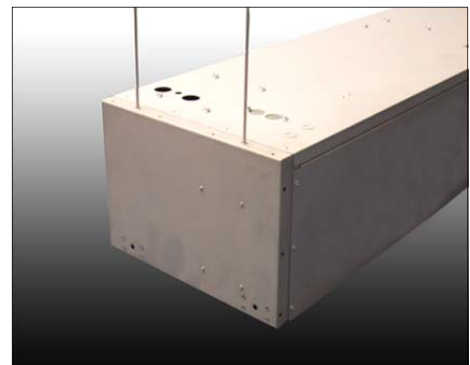

Fig 2
Step 2 Fix M10 threaded rods (not supplied) through the 2 holes at each end in the top casing (see Fig 2). Feed the rods through the casing and attach to fixing brackets near the bottom of the unit (see Fig 3, looking up into the air curtain). Use M10 lock-nuts either side of the fixing bracket to secure the hanging rod.